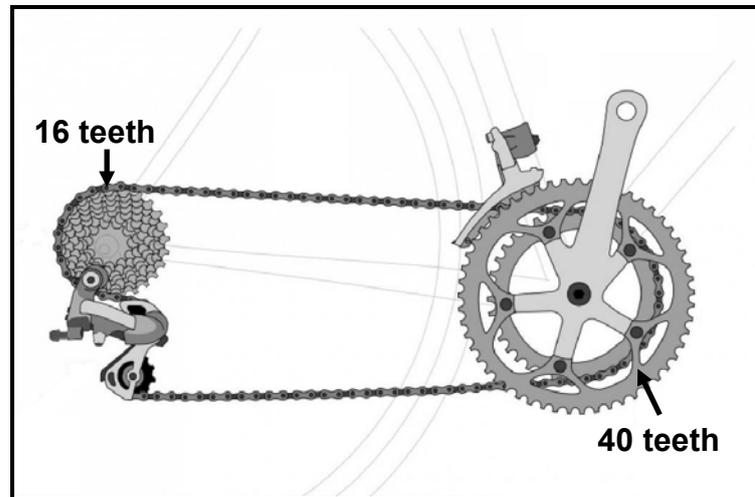

FIGURE 1.7
- 1.18 Determine the speed ratio of the chain drive of the racing bicycle shown in FIGURE 1.7.